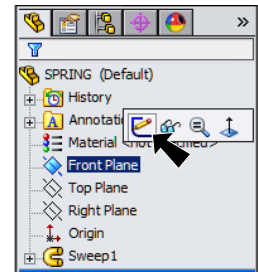
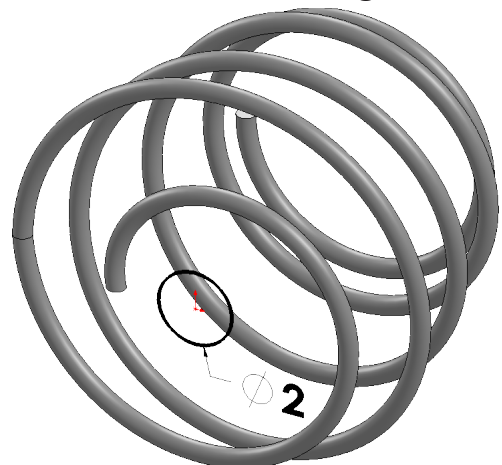

Fig. 10
Fig. 11
Step 1. Click **Front Plane**  in the Feature Manager and click **Sketch**  from the Context toolbar, **Fig. 10**.
Step 2. Click **Circle**  (S) on the Sketch toolbar.
Step 3. Draw a circle at Origin , **Fig. 11**.
Step 4. Click **Smart Dimension**  (S) on the Sketch toolbar.
Step 5. Dimension **diameter 2**, **Fig. 11**.